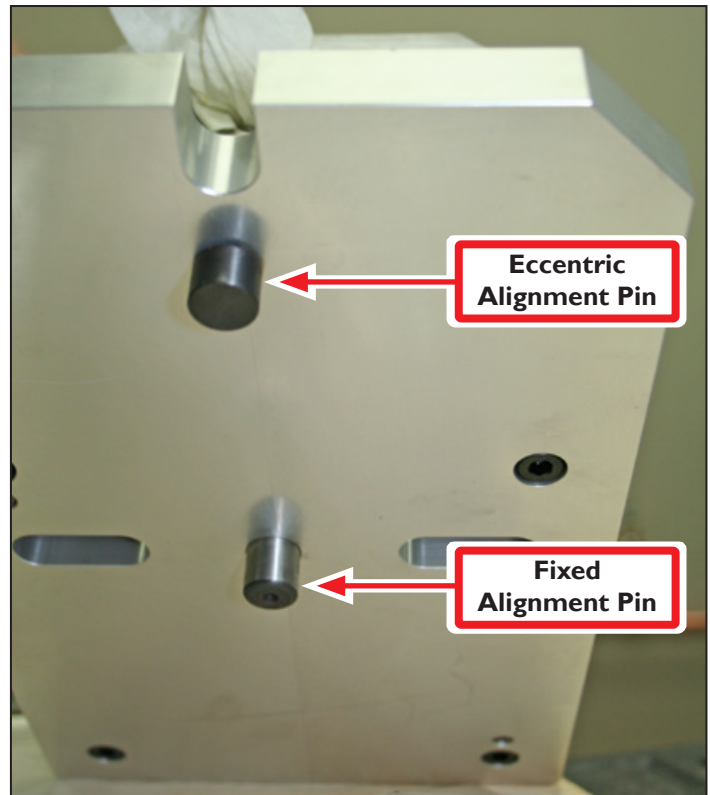

Figure 2.10
8. Lift up RapidTurn base plate to identify Eccentric Alignment Pin and Fixed Alignment Pin (see **Figure 2.10**). The rear (fixed) pin does not move; the forward (eccentric) pin rotates to bring RapidTurn's headstock into alignment with mill's X-axis. For more information, refer to *Align Headstock* section later in this chapter.